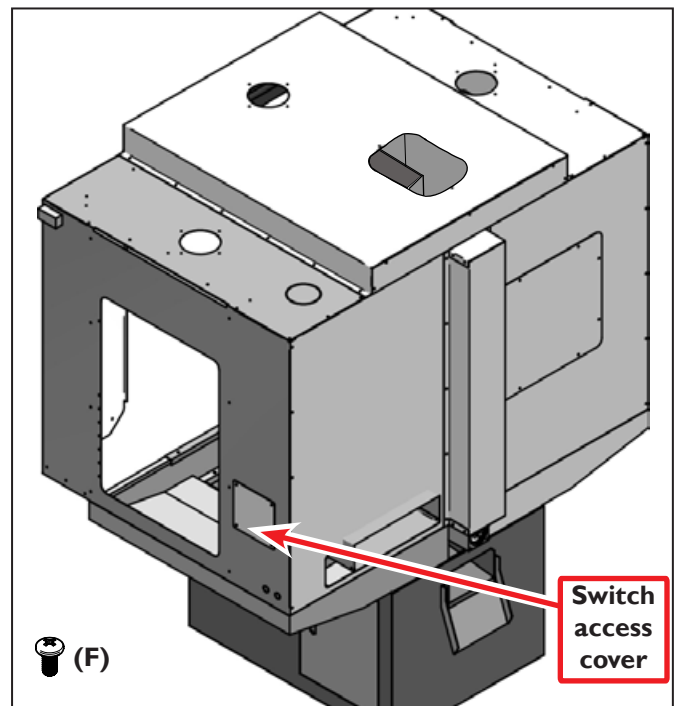

Figure 16
37. Place the Switch Access Cover (E.34) onto the right side panel (see **Figure 16**). Loosely fasten with (F) screws along the edges of the access panel.